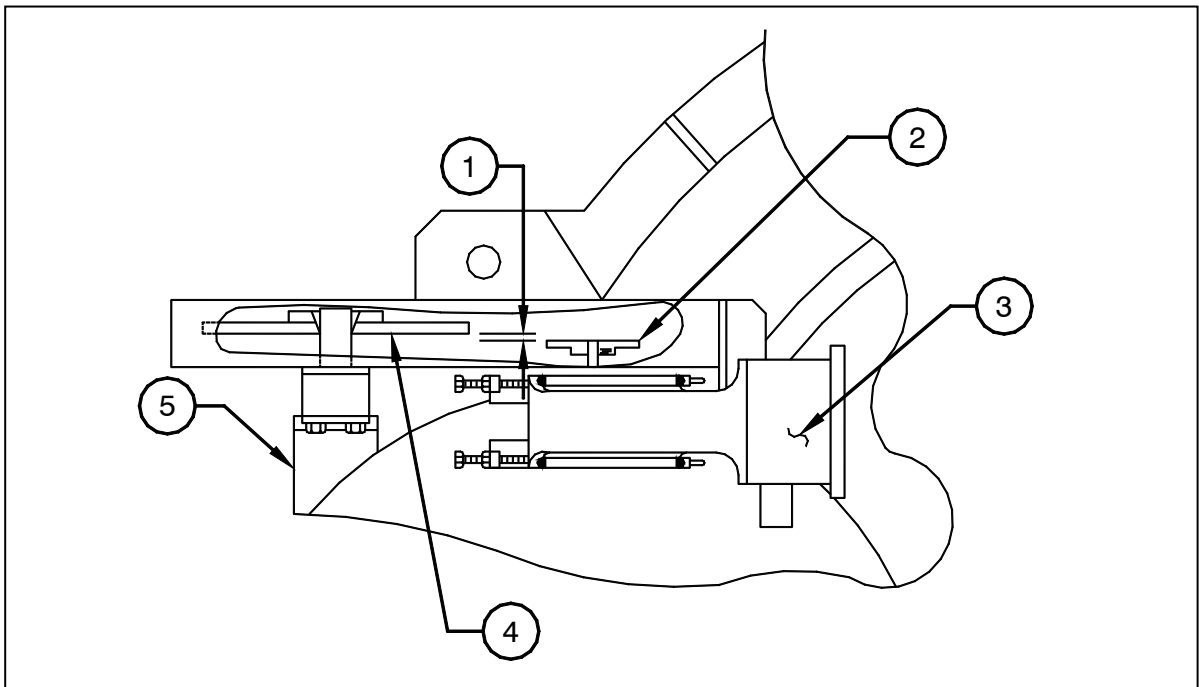

Figure 4.4a
Because the worm shaft and its driven sprocket (4) will be displaced inward under load, check that the driven sprocket (4) is offset 1/8" inward from true alignment with the motor's drive sprocket, as shown in Figure 4.4a. Adjust driven sprocket if out of alignment, referring to the Motor Drive Assembly drawing. This initial setting, then, will allow for near true alignment under normal load.